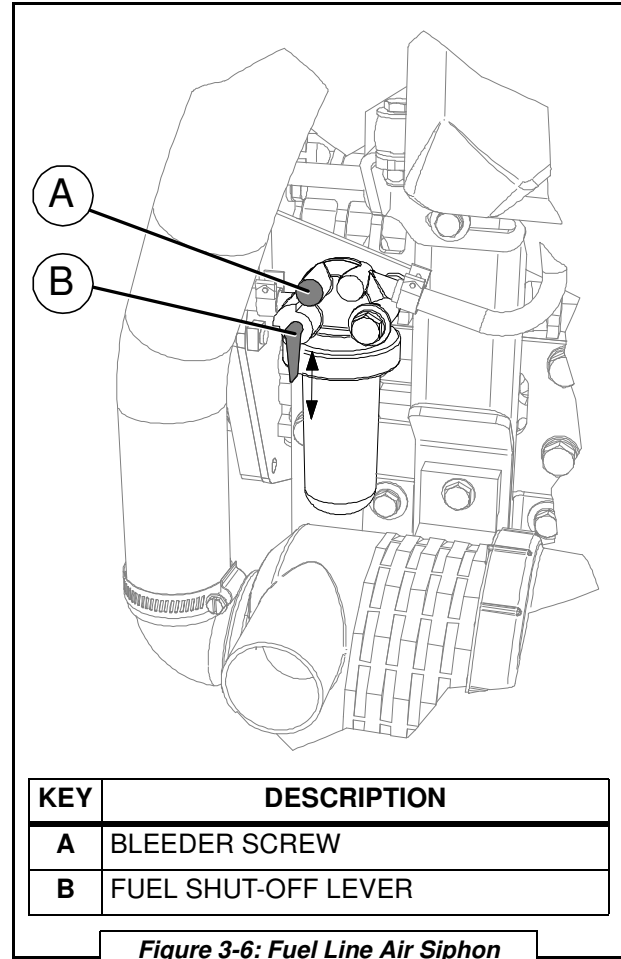

Figure 3-6: Fuel Line Air Siphon
Refer to **Figure 3-6** for fuel line air bleed screws located on the engine fuel filter head (positioned on engine above the air cleaner). This task is performed at first start up, and also if the machine has remained unused for a period of time greater than one (1) month, or unknown length.